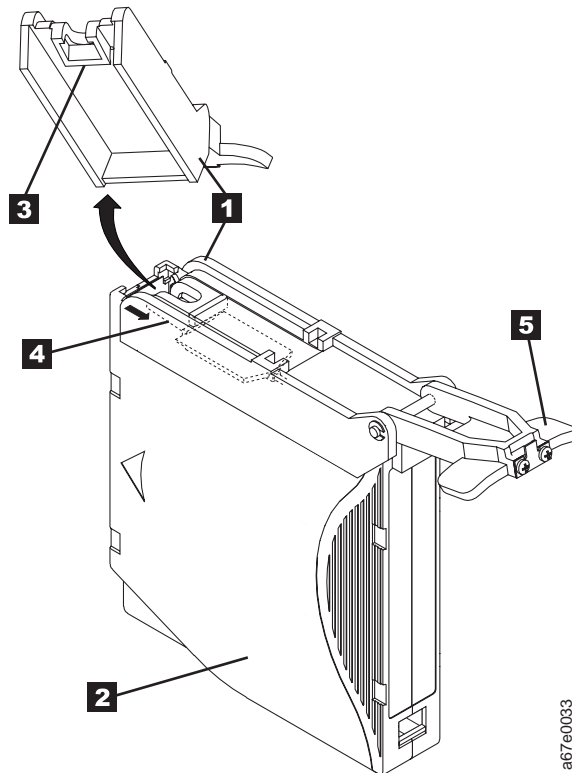

Figure 124. Attaching the leader pin attach tool to the cartridge. To hold the cartridge door open, hook the tool into the door and pull the tool back.
1. Attach the leader pin attach tool (**1** in Figure 124) to the cartridge (**2**) so that the tool's hook (**3**) latches into the cartridge's door (**4**). Pull the tool back to hold the door open, then slide the tool onto the cartridge. Open the tool's pivot arm (**5**).